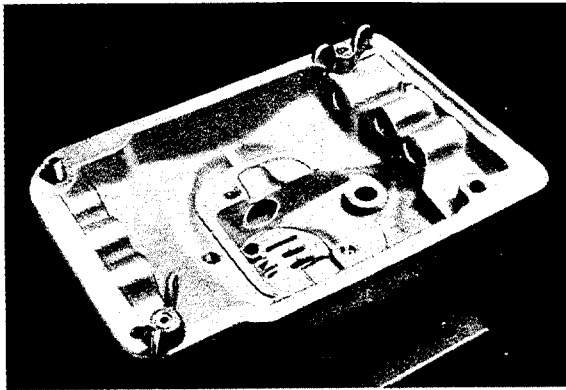

Fig. G 3/33
33. Insert locking plate in correct position into the transmission cover and tighten lightly (Fig. G 3/33). The longitudinal slots in the locking plate must be parallel with the shifting rails. To achieve this, install fixing device 191 589 02 31 in the transmission cover, before you tighten the locking plate.